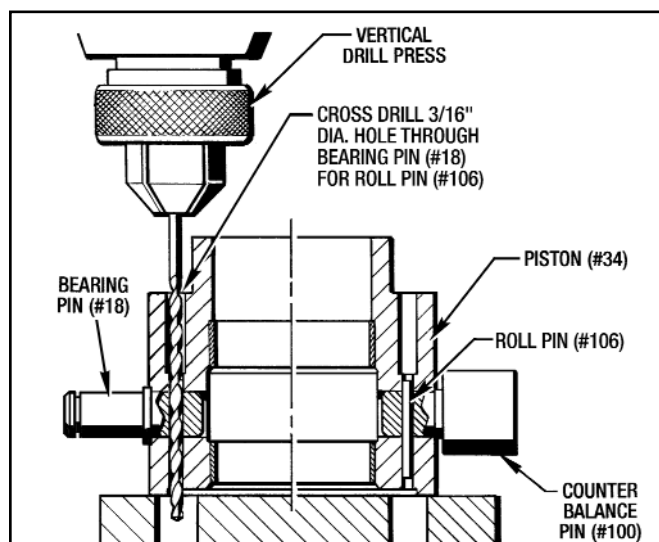

Figure 7.7 - Cross Drilling Piston Bearing Pin (#18)
3. Cross-drill a 3/16" hole through the Bearing Pin (#18) and install a Roll Pin (#101) into the Piston (#34) as shown in Figure 7.7.